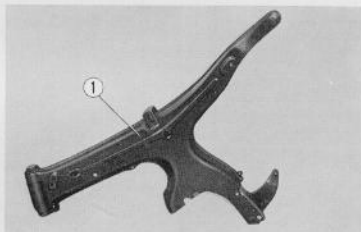

Fig. 4.47 ① Frame body (S 90, CL 90)
Further, from the standpoint of steering, high degree of rigidity is required and on the other hand, lightness is desired for riding performance. (S 90, CL 90, CL 90 L) (Fig. 4.47)
① Drift ② Head pipe
5. Remove the steel balls and drive out the ball races from inside the steering head pipe ② with a wooden or fiber drift ①. (Fig. 4.47)